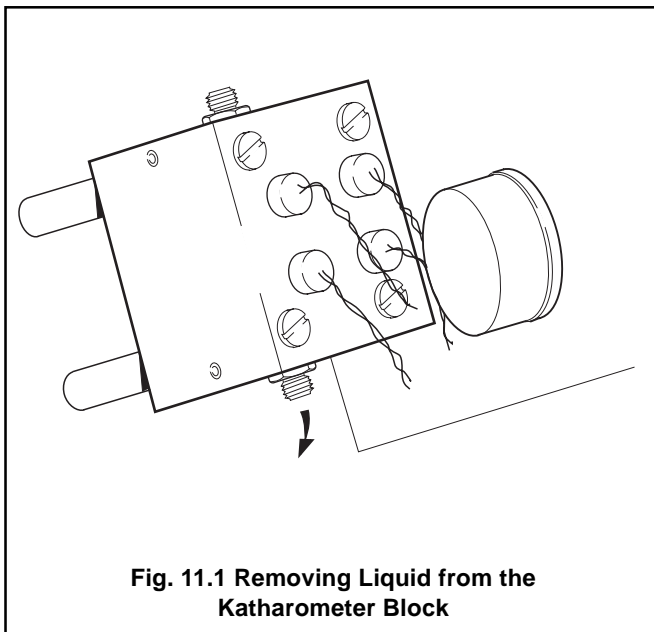

Fig. 11.1 Removing Liquid from the Katharometer Block
- Remove the measuring unit from the case and tilt at 45° to the horizontal. This will allow any liquid to drain from the measurement block. See Fig. 11.1.